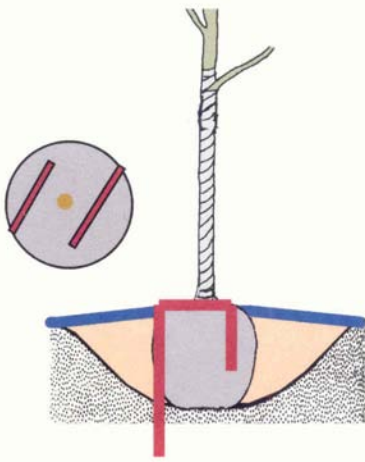

Figure 29. Two metal root "staples".
- **2 metal root "staples"** – Several brands are on the market. The long leg of the staple goes into ground at the edge of the root ball. The short leg of the staple goes into the root ball. The metal staple may be an issue if the tree stump needs to be ground out in the future. (Figure 29.)